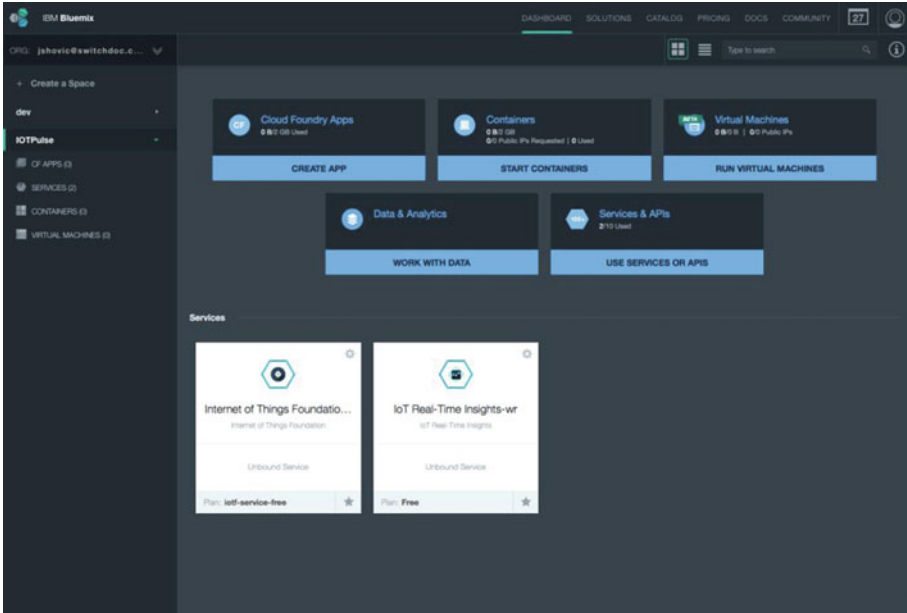

Figure 5-17. *IoT Real-Time Insights*
Step 1: Add the IoT Real-Time Insights service to your Bluemix dashboard. Open the Bluemix dashboard (the first dashboard after login) and click “USE SERVICES OR APIS” and add the IoT Real-time Insights as a service. It is way down at the bottom of the page. You will then see the screen in Figure 5-17.